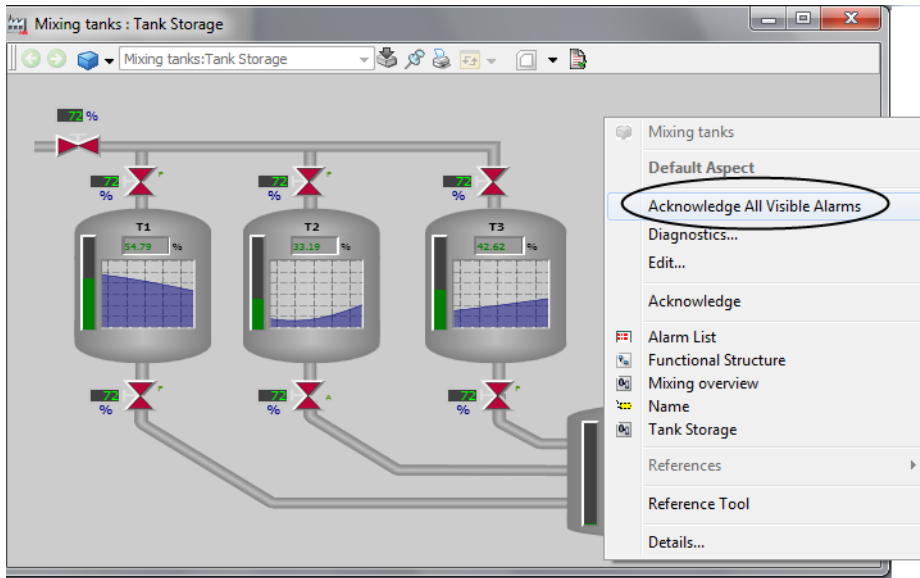

Figure 47. Context menu of a graphic aspect
2. Right-click the preview area of the graphic aspect and select **Acknowledge All Visible Alarms** from the context menu as shown in Figure 47.